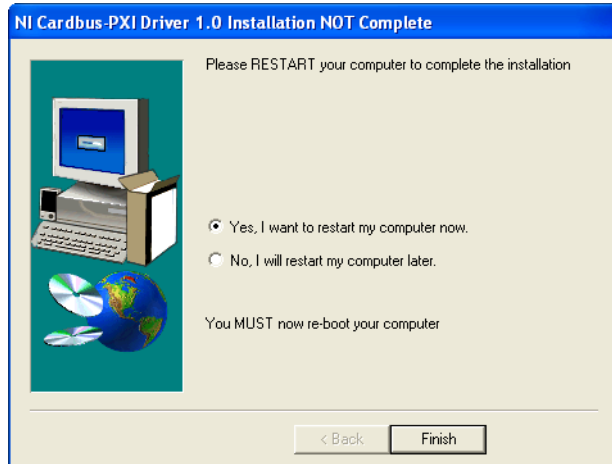

Figure 2-2. Reboot Dialog Box Under Windows XP Service Pack 2
2. The driver will make a small change to `boot.ini`, and then prompt you to reboot, as shown in Figure 2-2. You must do this before the driver install can continue.